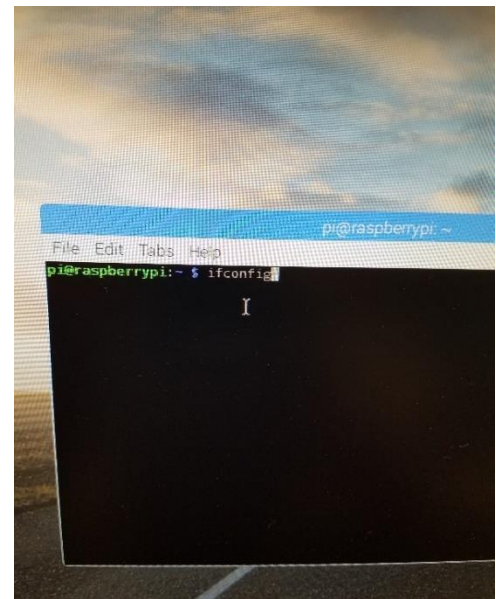
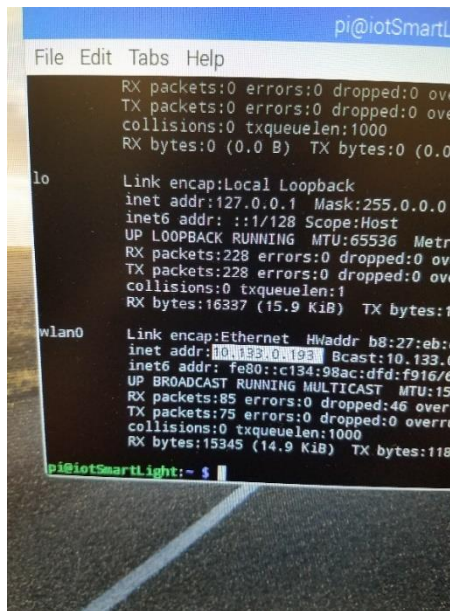

Figure 11: Entering "***ifconfig***" into the
Figure 12: Finding the inet Address for the Raspberry Pi
4. Type ***ifconfig*** into the terminal prompt and press "enter" like in Figure 11. You will look for the succession of numbers that come after **inet addr** in the section of information under **Wlan0** (Figure 12). This number should be in the format of 12.345.6.78. This is the internet address of the Raspberry Pi device and it is how other devices locate it through the internet.